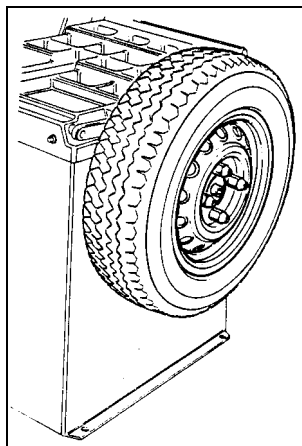

fig.14
- **Fig. 14** shows the attachment system for car wheels using the universal 3/4/5 hole flange.